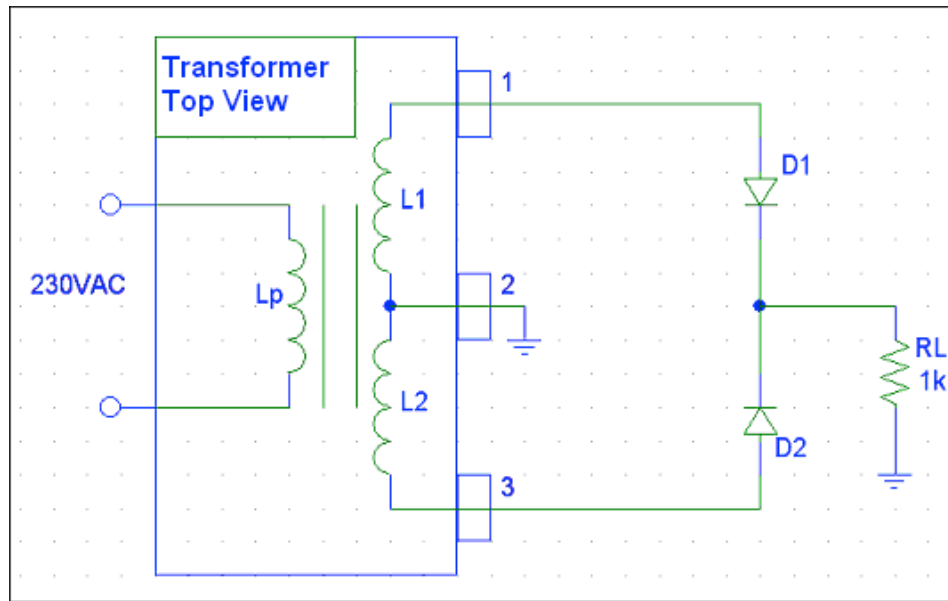

Fig. 2 Centre-tapped transformer full-wave rectifier.
1. Solder the circuit illustrated in fig. 2.